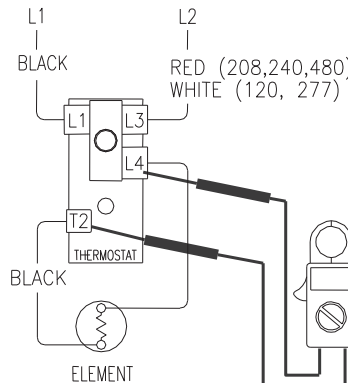

Figure 6
4. Check across terminals L4 and T2 of thermostat (see Figure 6).
4. See Figure 6 above, check across terminals L4 and T2 of thermostat.